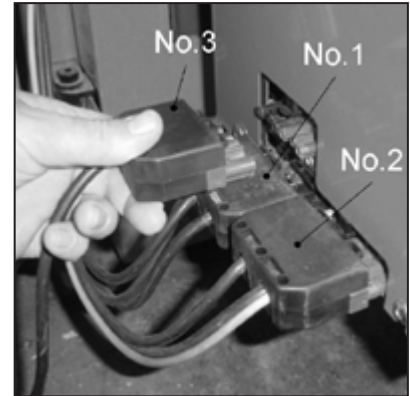

Figure 8-4: Auger plug connection
4. Fit the two 7-way plugs (No.1 and No.2) from the boiler control panel into the two lower connections on the left side of the burner. These plugs are male and female and cannot be fitted into the wrong connections. Refer to Figure 8-4. Ensure that both plugs are fully pushed home until the small catch on each of them clicks into place.
5. Fit the 6-way plug (No.3) from the pellet feed auger motor into the upper connection on the left side of the burner. Refer to Figure 8-4. Ensure that the plug is fully pushed home until the small catch it clicks into place.